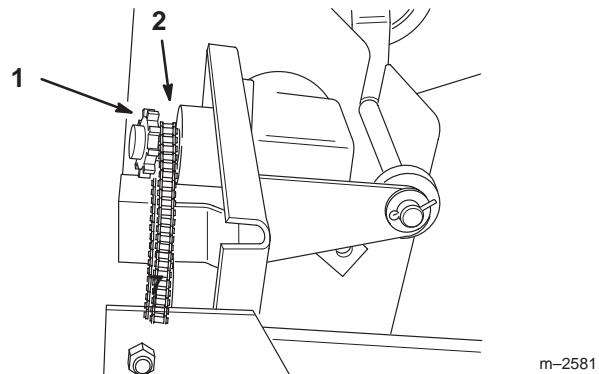

Figure 1
1. Place drive chain behind, not on, gearbox drive sprocket (Fig. 1).